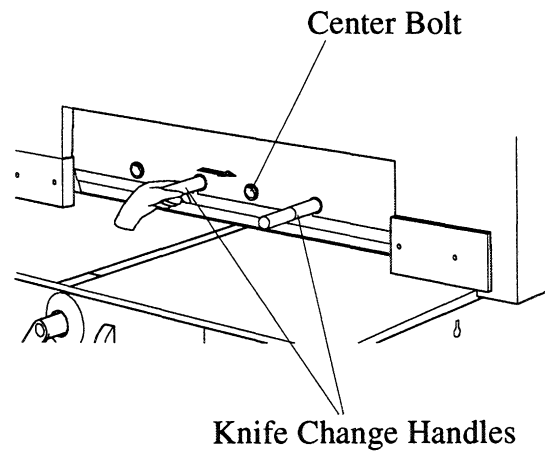

Fig. 4-11
- While holding left knife change handle, apply pressure towards right (*Fig. 4-11*).